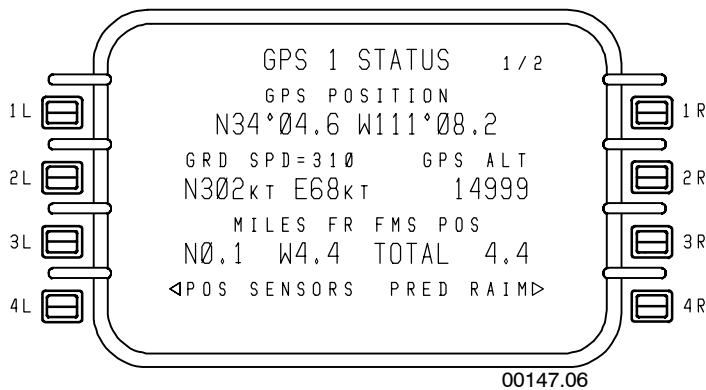

Figure 6-129
- **GPS(X) STATUS 1/2** - Figure 6-129 displays the following information: